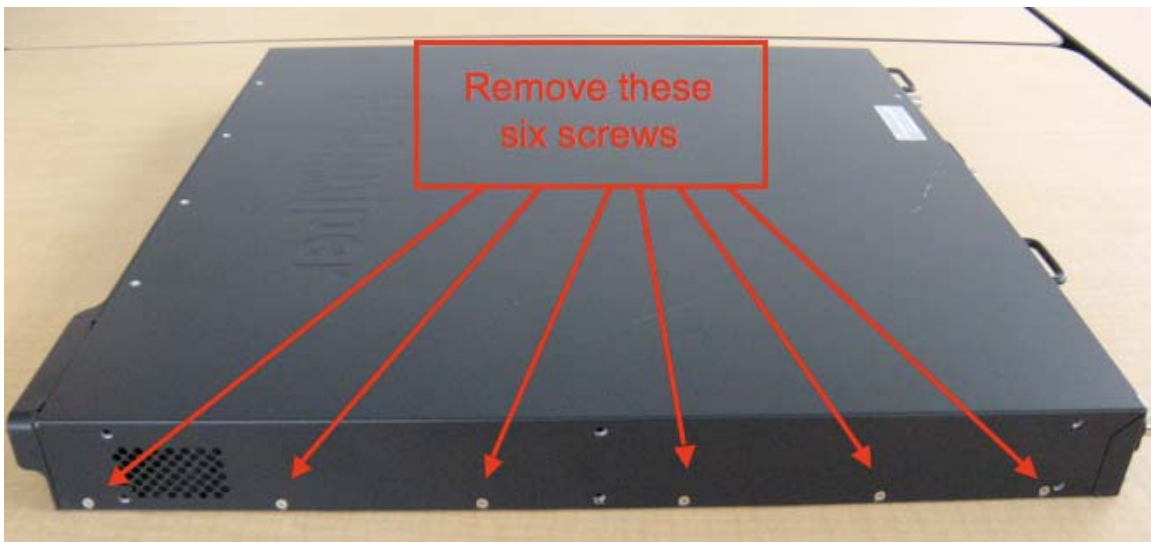

Figure 3-2: Left side screws
3. Remove six screws from left side of chassis (figure 3-2)